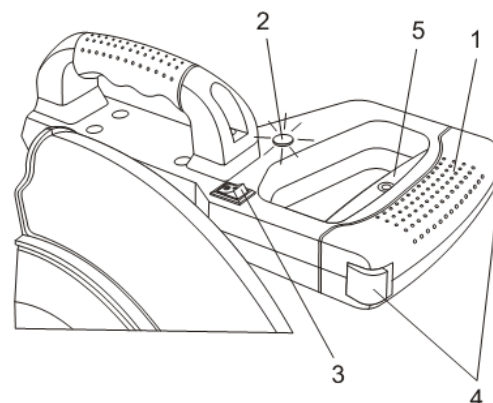

Fig. 20
The switches and power indicator light are all contained within the main handle (1) of the mitre saw (Fig. 20). The description of how each element functions is described in the following paragraphs.